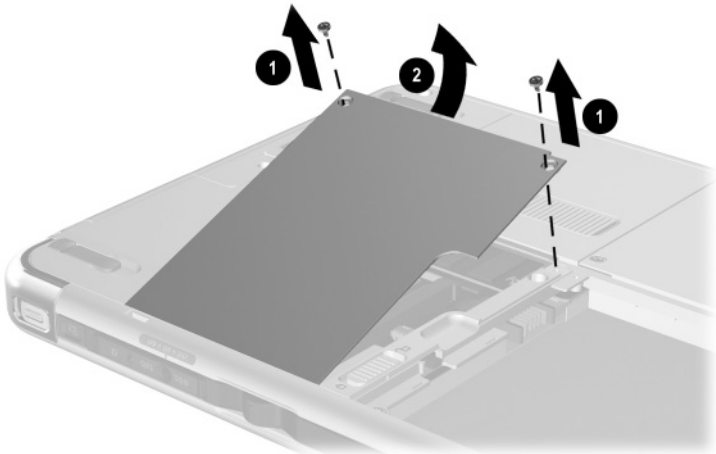

Figure 5-3. Removing the Memory Expansion/Mini PCI Communications Compartment Cover
- b. Remove the two PM2.0 × 4.0 screws ❶ that secure the mini PCI communications/memory expansion slot cover to the tablet PC (Figure 5-3).
- c. Lift the back edge of the mini PCI communications/memory expansion slot cover up and swing it forward ❷.